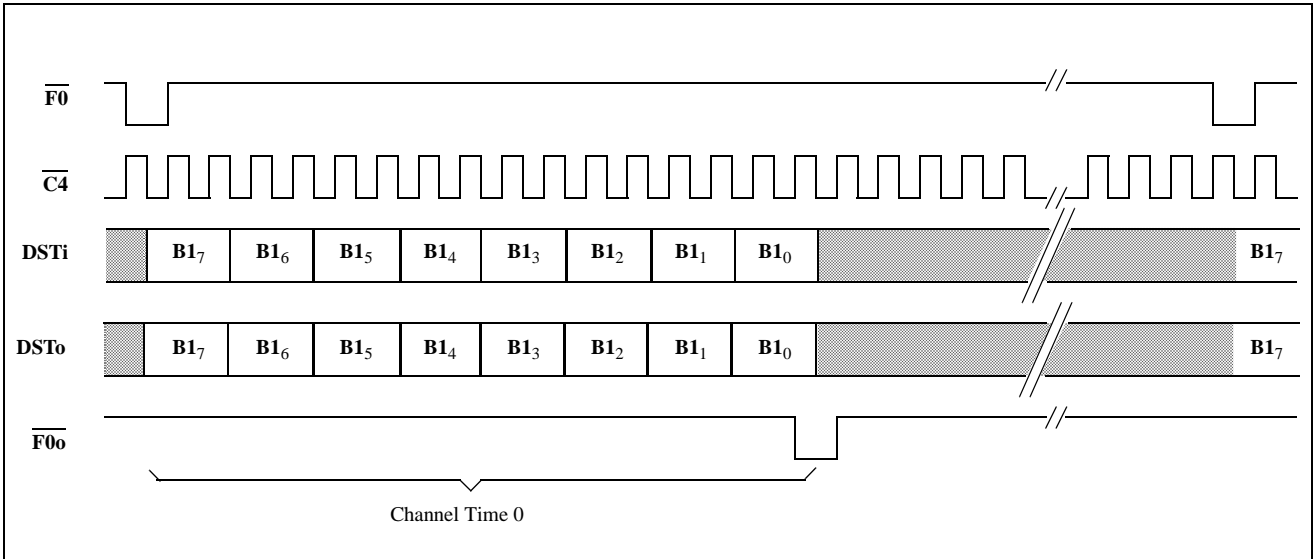
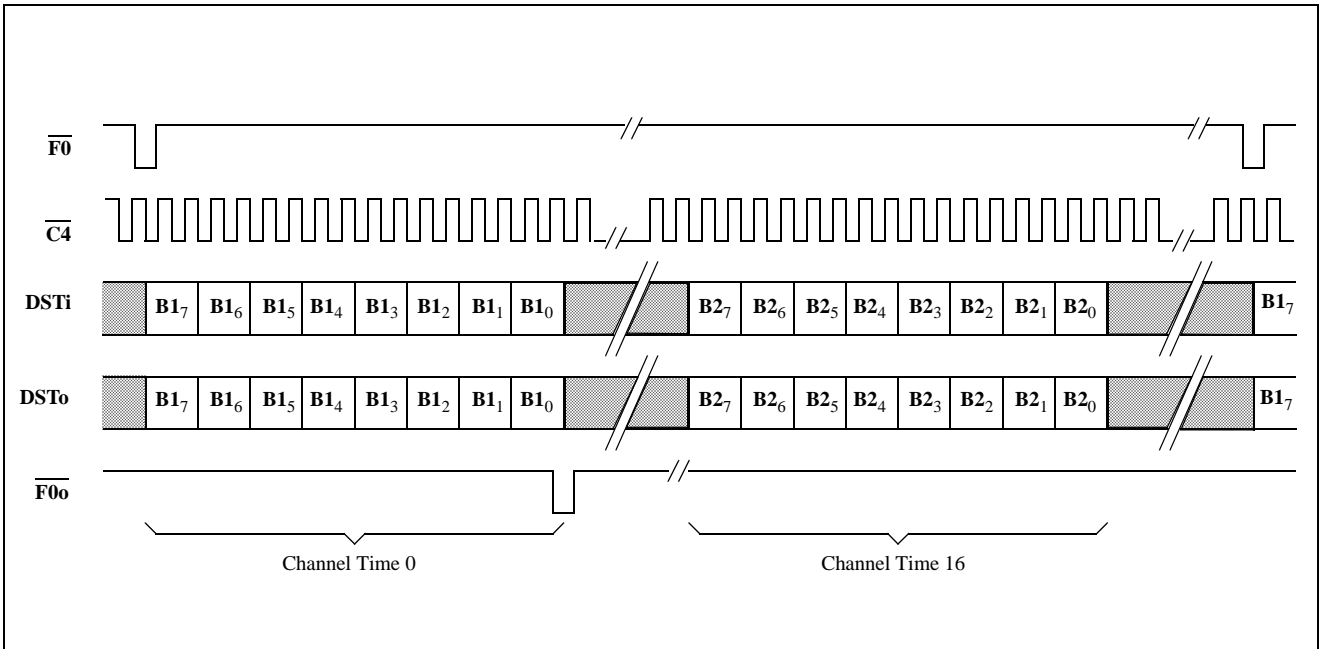
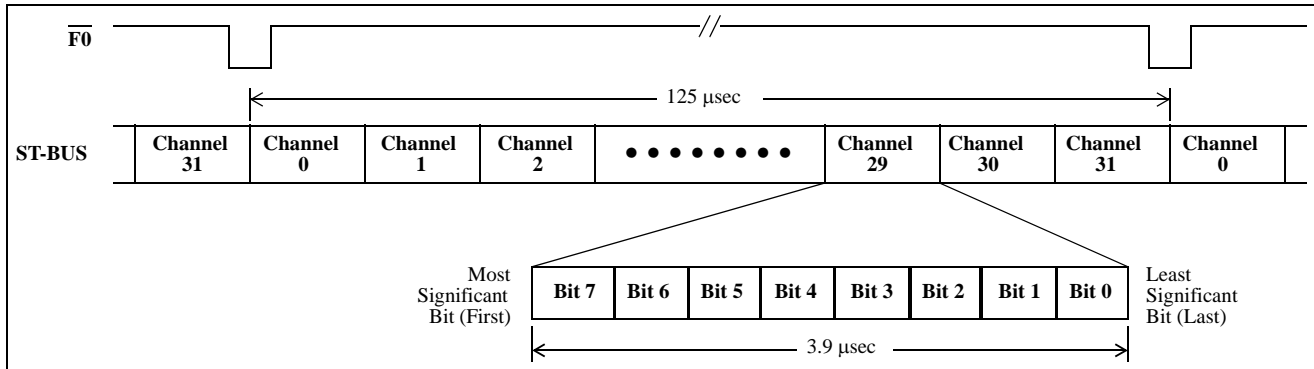

Figure 3 - DV Port - 80 kbit/s (Modes 2, 3, 6)
Figure 4 - DV Port - 160 kbit/s (Modes 2, 3, 6)
Figure 9 - ST-BUS Format
In DIGITAL NETWORK (DN) mode there are three channels transferred by the DV and CD ports. They are the B, C and D channels. The B1 and B2 channels each have a bandwidth of 64 kbit/s and are used for carrying PCM encoded voice or data. These channels are always transmitted and received through the DV port (Figures 3, 4, 5, 6). The C-channel, having a bandwidth of 64 kbit/s, provides a means for the system to control the DNIC and for the DNIC to pass status information back to the system. The C-channel has a Housekeeping (HK) bit which is the only bit of the C-channel transmitted and received on the line. The 2B+D channel bits and the HK bit are double-buffered. The D-channel can be transmitted or received on the line with either an 8, 16 or 64 kbit/s bandwidth depending on the DNIC's mode of operation. Both the HK bit and the D-channel can be used for end-to-end signalling or low speed data transfer. In DUAL port mode the C and D channels are accessed via the CD port (Figure 7) while in SINGL port mode they are transferred through the DV port (Figures 5, 6) along with the B1 and B2 channels.
The DV port transfers data or PCM encoded voice to and from the line according to the particular mode selected by the mode select pins. The modes affecting the configuration of the DV port are MOD or DN and DUAL or SINGL. In DN mode the DV port operates as an ST-BUS at 2.048 Mbit/s with 32, 8 bit channels per frame as shown in Figure 9. In this mode the DV port channel configuration depends upon whether DUAL or SINGL port is selected. When DUAL port mode is used, the C and D channels are passed through the CD port and the B1 and B2 channels are passed through the DV port. At 80 kbit/s only one channel of the available 32 at the DV port is utilized, this being channel 0 which carries the B1-channel. This is shown in Figure 3. At 160 kbit/s, two channels are used, these being 0 and 16 carrying the B1 and B2 channels, respectively. This is shown in Figure 4. When SINGL port mode is used, channels B1, B2, C and D are all passed via the DV port and the CD port is disabled. See CD port description for an explanation of the C and D channels.